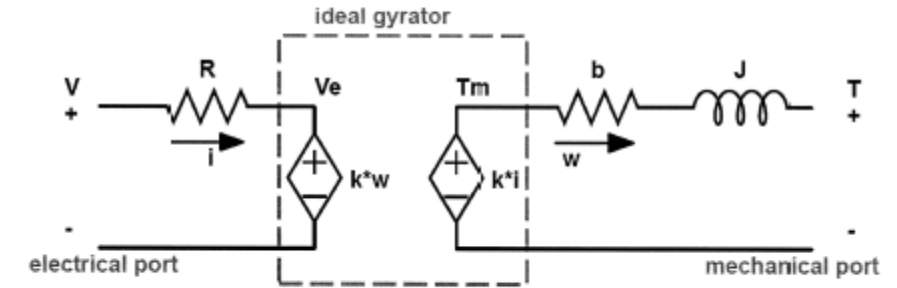

Figure 3
4. A simplified electromechanical model of a DC-motor (DCM) is shown in Figure 3. It mainly consists of an electrical port (with armature current  $i$  flowing through a resistance  $R$ ) and a mechanical port at the shaft (with angular velocity  $w$ , mechanical damping  $b$  and inertia  $J$ ) connected through an ideal gyrator.
- (a) As highlighted by the dashed box in Figure 3, the gyrator is itself a 2-port system, with one electrical port (current  $i$ , voltage  $V_e$ ) and a mechanical port (angular speed  $w$  and torque  $T_m$ ). Determine the power at each of the two ports of the gyrator and their sum (i.e. total power). (5 marks)
- (b) The electromechanical model in Figure 3 is general, in the sense that it does not specify any particular electrical or mechanical connection. In the specific case of a DCM driven by a voltage source  $v(t)$ , where  $t$  is time, and mechanically free to rotate (i.e. mechanically unloaded),